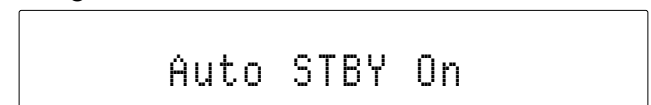

Figure 45
3. To re-activate the Auto Off Feature, press and hold in the ⏻ Power Push-button on the Remote Control for about 5-10 seconds, at which time the Front Panel Display indicates "Auto STBY On". Refer to figure 45.